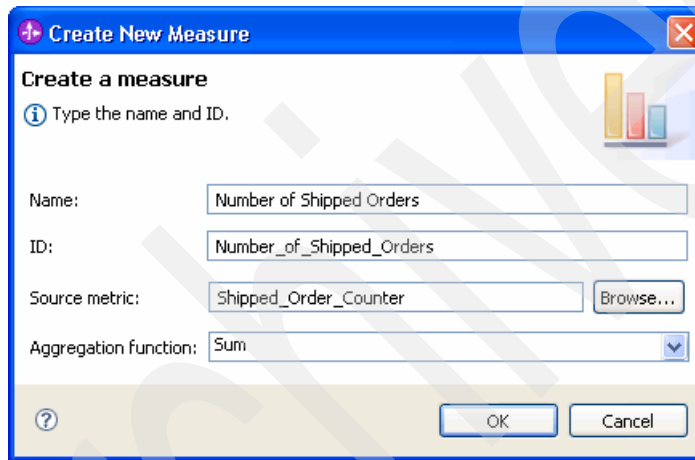

Figure 5-52 Number of Shipped Orders Measure
2. In the Create New Measure window (Figure 5-52 on page 204):